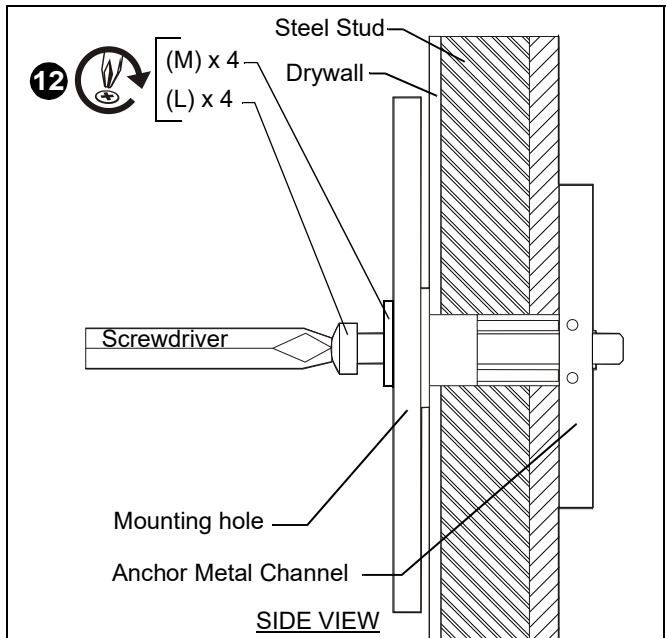

**Figure 6**
8. Snap off plastic straps on anchor at wall by pushing side to side, snapping off straps level with flange of plastic cap. (See Figure 6)